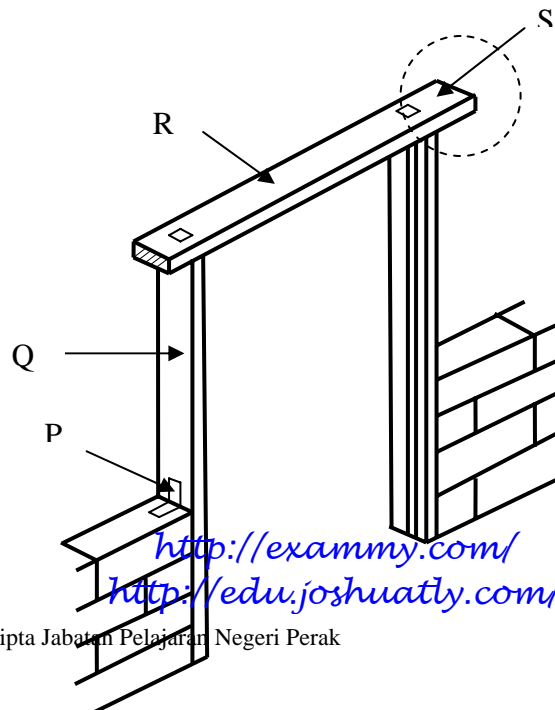

FIGURE 3
8. Figure 3 shows a door frame.